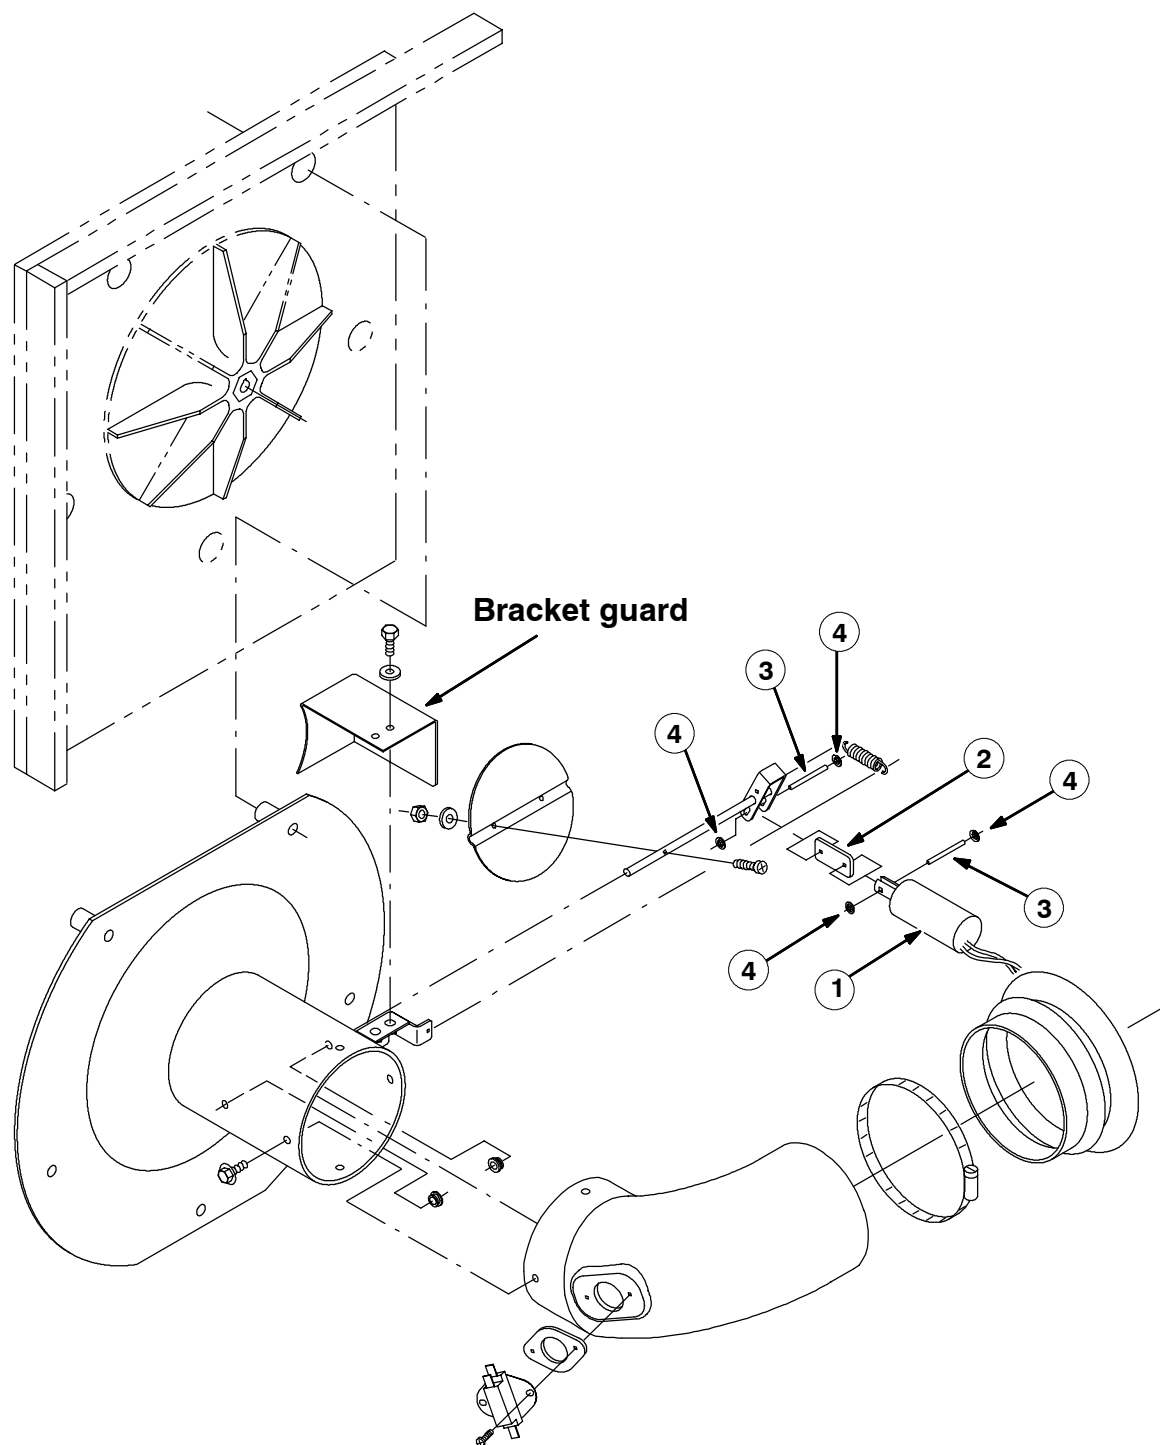

FIG. 4 - SOLENOID DAMPER KIT, 6200
14. Mount the new solenoid (1) in the new round solenoid mounting hole. (Refer to FIG. 4)
15. Connect one end of the new link (2) to the new solenoid (1) with a new pin (3) and pin retainers (4). Connect the other end of the link (2) to the damper rod with a new pin (3) and pin retainers (4). (Refer to FIG. 4)
16. Replace the solenoid bracket guard with the set aside hardware. (Refer to FIG. 4)